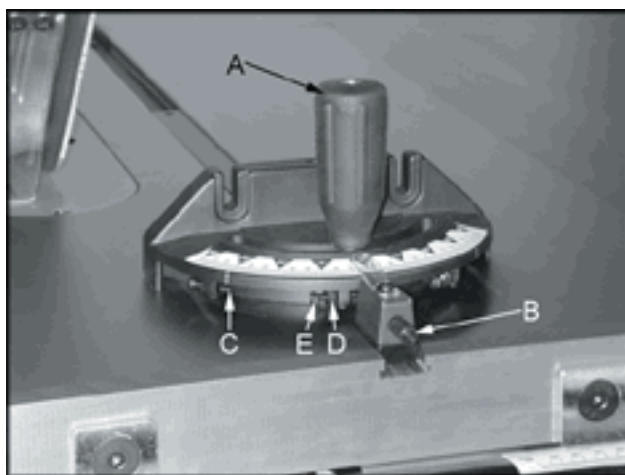

Figure 19
1. Slide the miter gauge bar into the miter gauge slot in table. Loosen the handle (A, Figure 19) and pull out indexing rod (B, Figure 19) to pivot the miter gauge body.
2. Push the indexing rod in to engage the preset stops (C, Figure 19).
3. Adjust stops by loosening the hex nut (D, Figure 19) and adjusting screw (E, Figure 19).